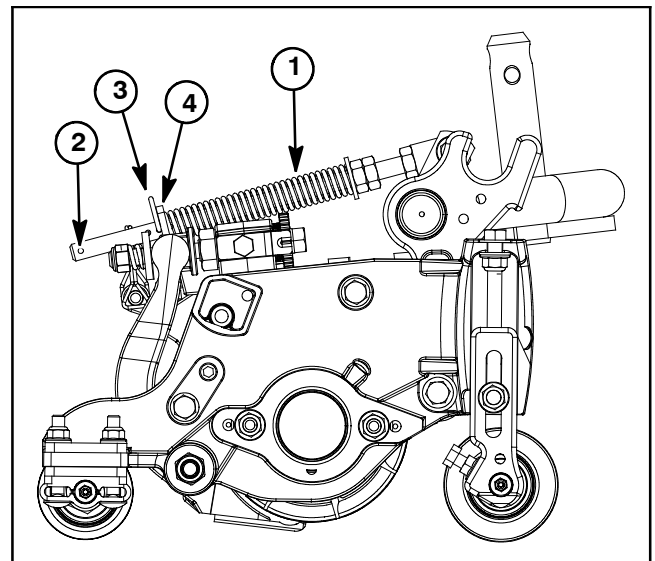

Figure 3
4. Move hair pin from rear hole of turf compensator rod to the hole closest to the rod bracket (Fig. 3). This will lock the turf compensator spring in position.
6. Move hair pin to the rear hole of turf compensator rod to unlock the turf compensator spring (Fig. 3).